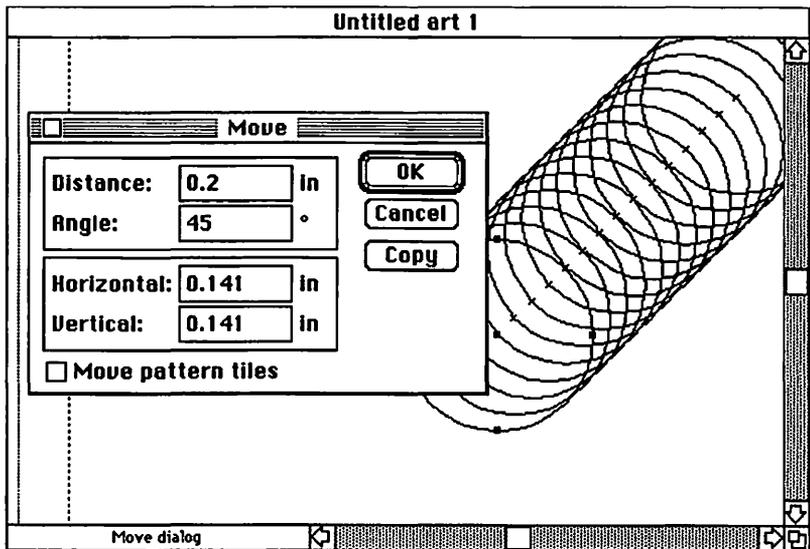

FIGURE 3-16 To start a step and repeat in **Illustrator**, enter the distance between steps and the direction in the top two text boxes of the Move dialog box.
3. In the Move dialog box which is now open, designate how far to offset the element in the Distance text box and in what direction in the Angle text box (Figure 3-16).